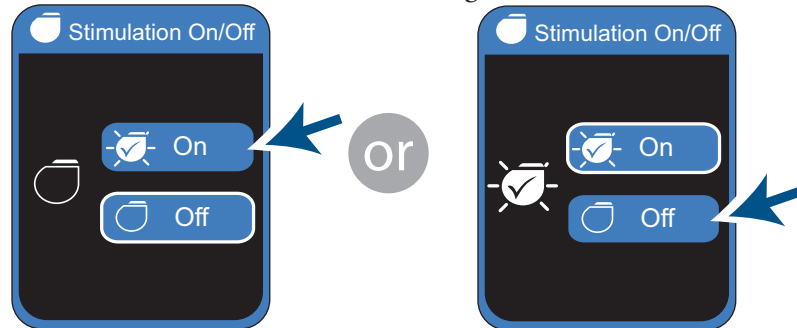

Figure 9. Turning stimulation on or off
2. Tap  or  to turn stimulation on or off (*Figure 9*).